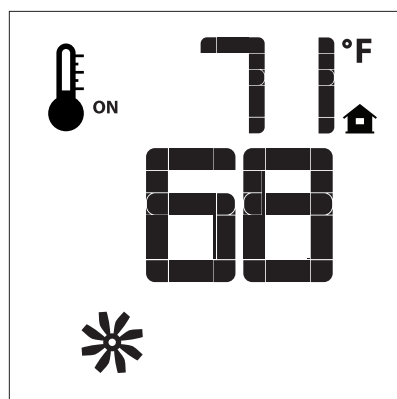
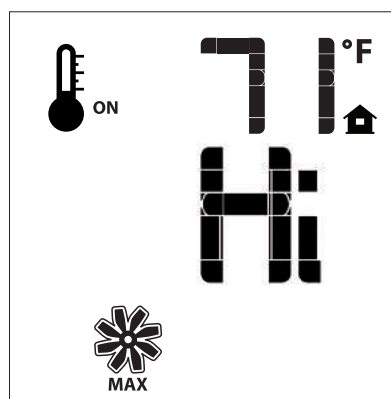

Fig. 14
Fig. 15
If the appliance is equipped with a hot air circulating fan, the speed of the fan can be controlled by the Proflame system. The fan speed can be adjusted through six (6) speeds. To activate this function use the Mode Key (fig.1) to index to the fan control icon (Fig. 14). Use the Up/Down Arrow Keys (Fig.1) to turn on, off or adjust the fan speed (fig. 15). A single “beep” will confirm reception of the command.